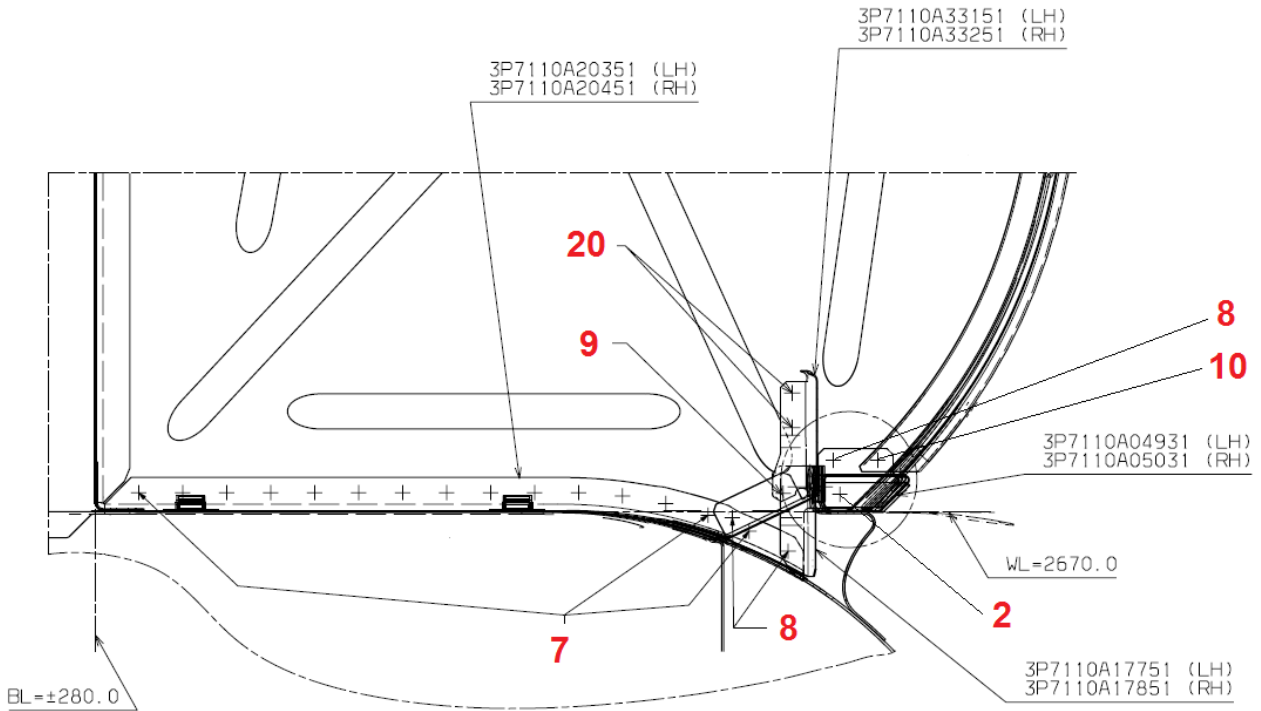

Figure 7 – View H-H from Fig. 5.
5. With reference to Figure 7, drill out rivets that install LH and RH angles (P/N 3P7110A20351 and P/N 3P7110A20451) on firewall assy.
12. With reference to Figure 7, install rivets on LH and RH angles (P/N 3P7110A20351 and P/N 3P7110A20451) on firewall assy.